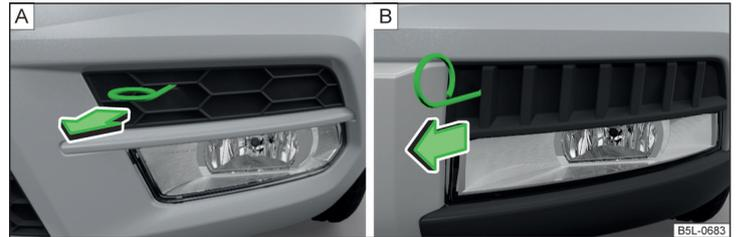

Fig. 199 Guard: Version 1/version 2
- Undo the protective grille in the direction of the arrow » Fig. 199 using the clamp for removing the wheel trims » page 198, *Vehicle tool kit*.
First remove the grille for the fog lights and before changing bulbs » Fig. 199 on page 218 and / or » Fig. 200 on page 219.